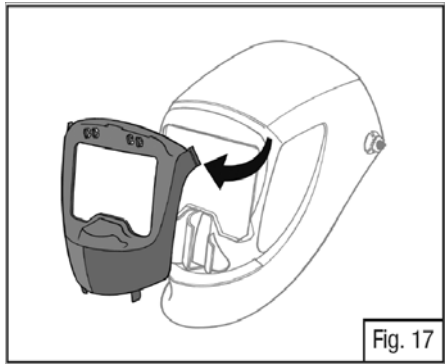

Fig. 17
- To replace the ADF cover plate or batteries, the ADF must be removed from the ADF holder. To do so, gently pull on the top of the ADF holder while pulling the ADF in the opposite direction (Fig 17). The ADF and holder will snap apart.